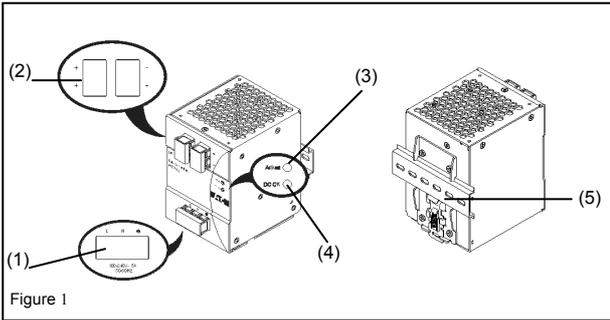

Figure 1
2. Device description (Fig. 1)
5.1. Input connection (Fig. 1 and Fig. 5)
5.2. Output connection (Fig. 1 (2))
potentiometer. The green LED DC OK displays correct function of the output (Fig. 1 (4)).